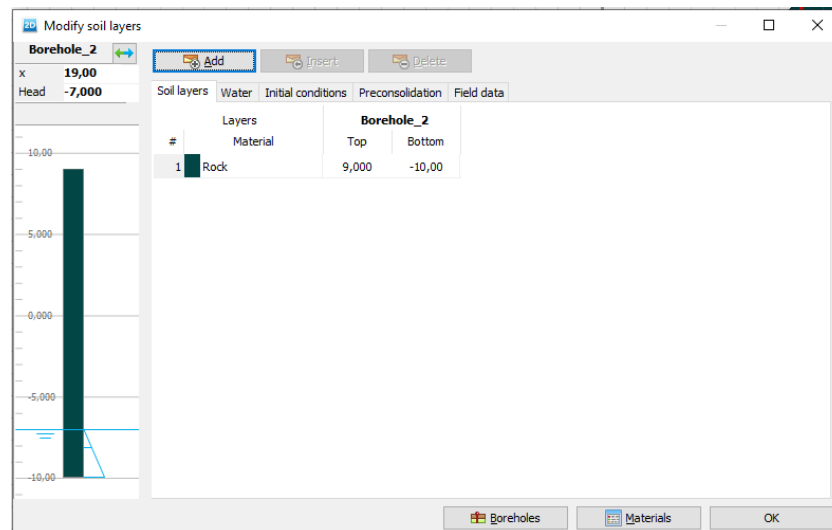

Figure 4: Modify soil layer window (to create borehole 2).
- Next step, **Create again borehole 2, define the x value, depth water level, Top and Bottom soil layer** according to (Figure 4).